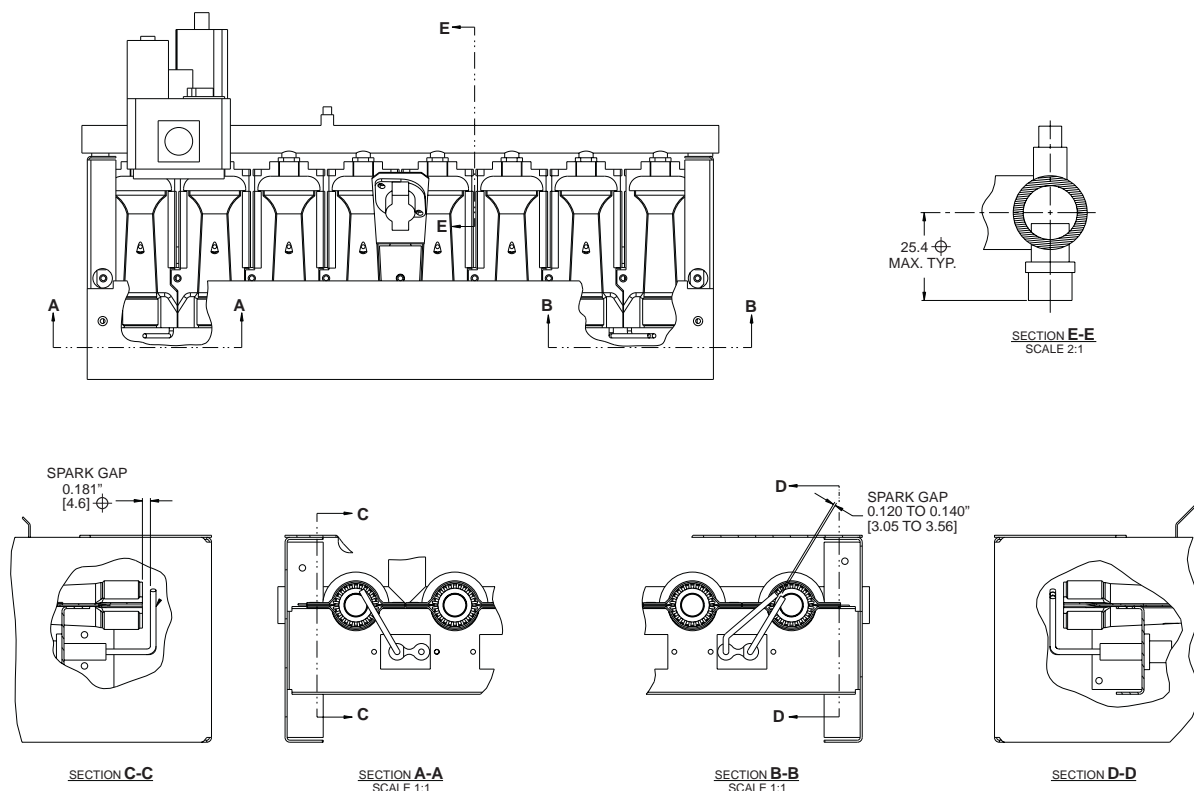

Fig. 70 – Spark Gap Adjustment
4. Adjust spark gap. (See Fig. 70.)